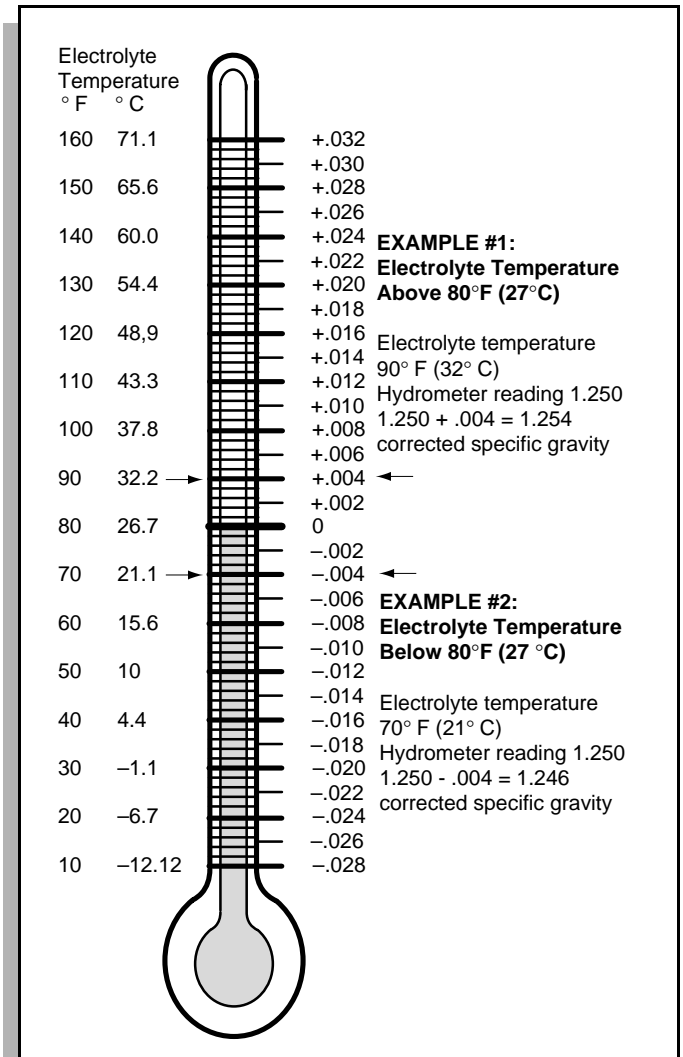

Fig. 27 Hydrometer Temperature Correction
4. Add or subtract four points (.004) to the reading for every 10°F (6°C) the electrolyte temperature is above or below 80° F (27° C). Adjust the reading to conform with the electrolyte temperature, e.g., if the reading indicates a specific gravity of 1.250 and the electrolyte temperature is 90° F (32° C), **add** four points (.004) to the 1.250 which gives a corrected reading of 1.254. Similarly if the temperature was 70° F (21°C), **subtract** four points (.004) from the 1.250 to give a corrected reading of 1.246 (Ref Fig. 27 on page 21).